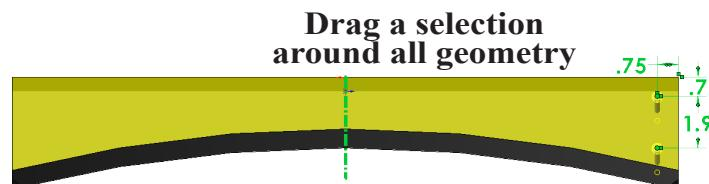

Fig. 31
Step 11. Drag a selection around all geometry as shown in Fig. 31.